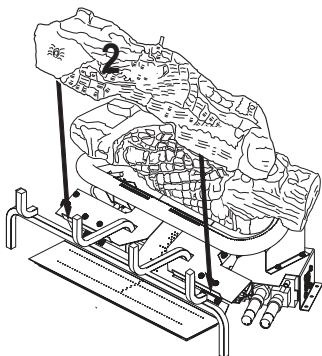

Figure 45 - Installing Log # 2
2. Place the middle log (#2) in front of the U-burner and against the edges of the plate as shown in Figure 45.